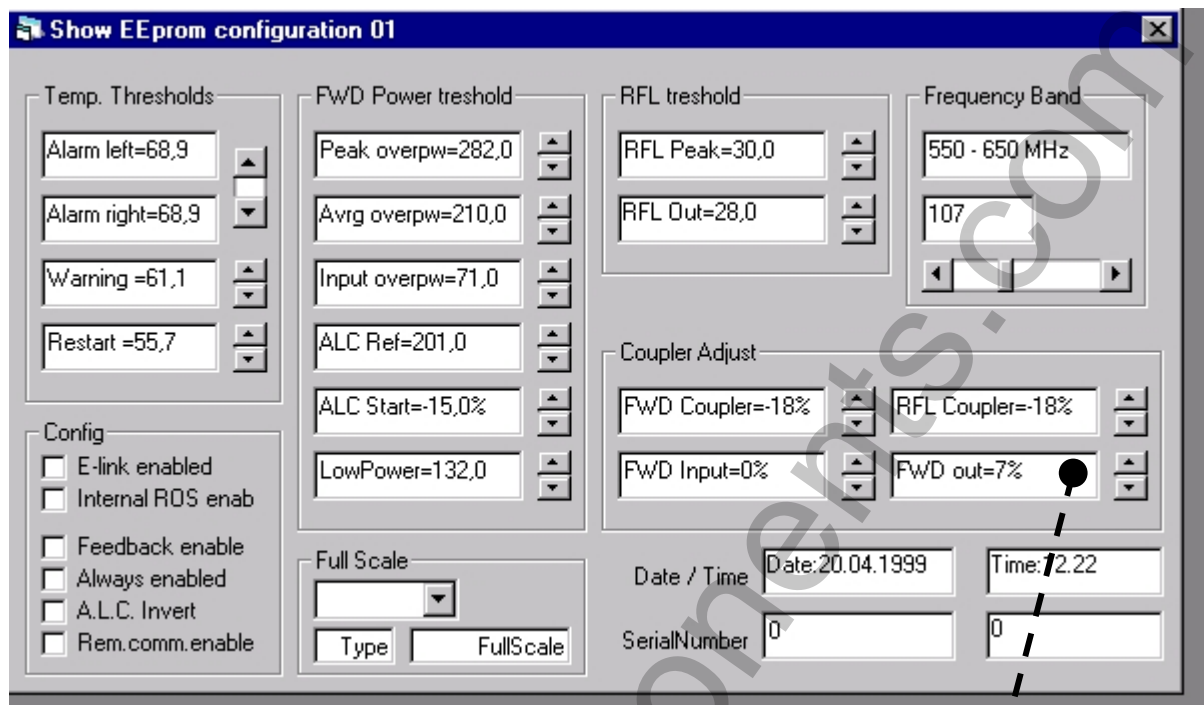

Figure 13: Screen of threshold values and calibration data of RF Amplifier ETL0470
- ⇒ In the performance data booklet delivered with each Amplifier, in section PQ: "Final performance data" we give a screen showing all calibration settings of the Amplifier, as shown in figure 13. Under the heading: "Coupler Adjust", read: FWD out=xx% and note number xx, which is the coupler calibration factor. If the booklet is not available, you can obtain the calibration factor from the Amplifier that has been replaced, or from the Amplifier still in operation, as explained in the "Detailed procedures" below.